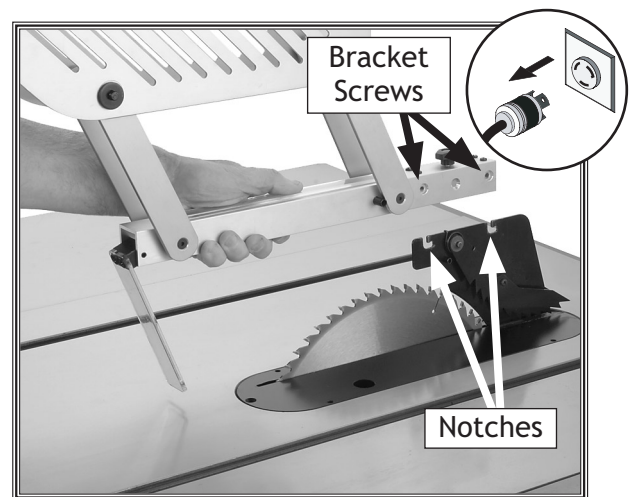
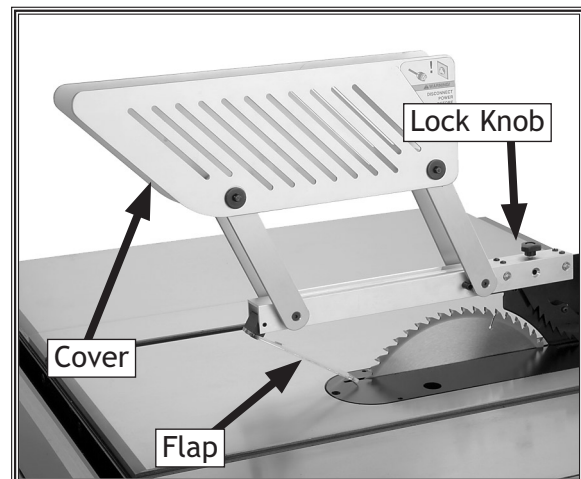

Figure 29. Installing blade guard on splitter.
Figure 30. Blade guard installed.
6. Slide the bracket screws shown in **Figure 29** into the notches on the splitter, push the guard toward the back of the table, and tighten the lock knob (**Figure 30**). If you have difficulty sliding the blade guard bracket screws (**Figure 29**) into the notches on the splitter, loosen the bracket screws just enough so the guard fits on the splitter.